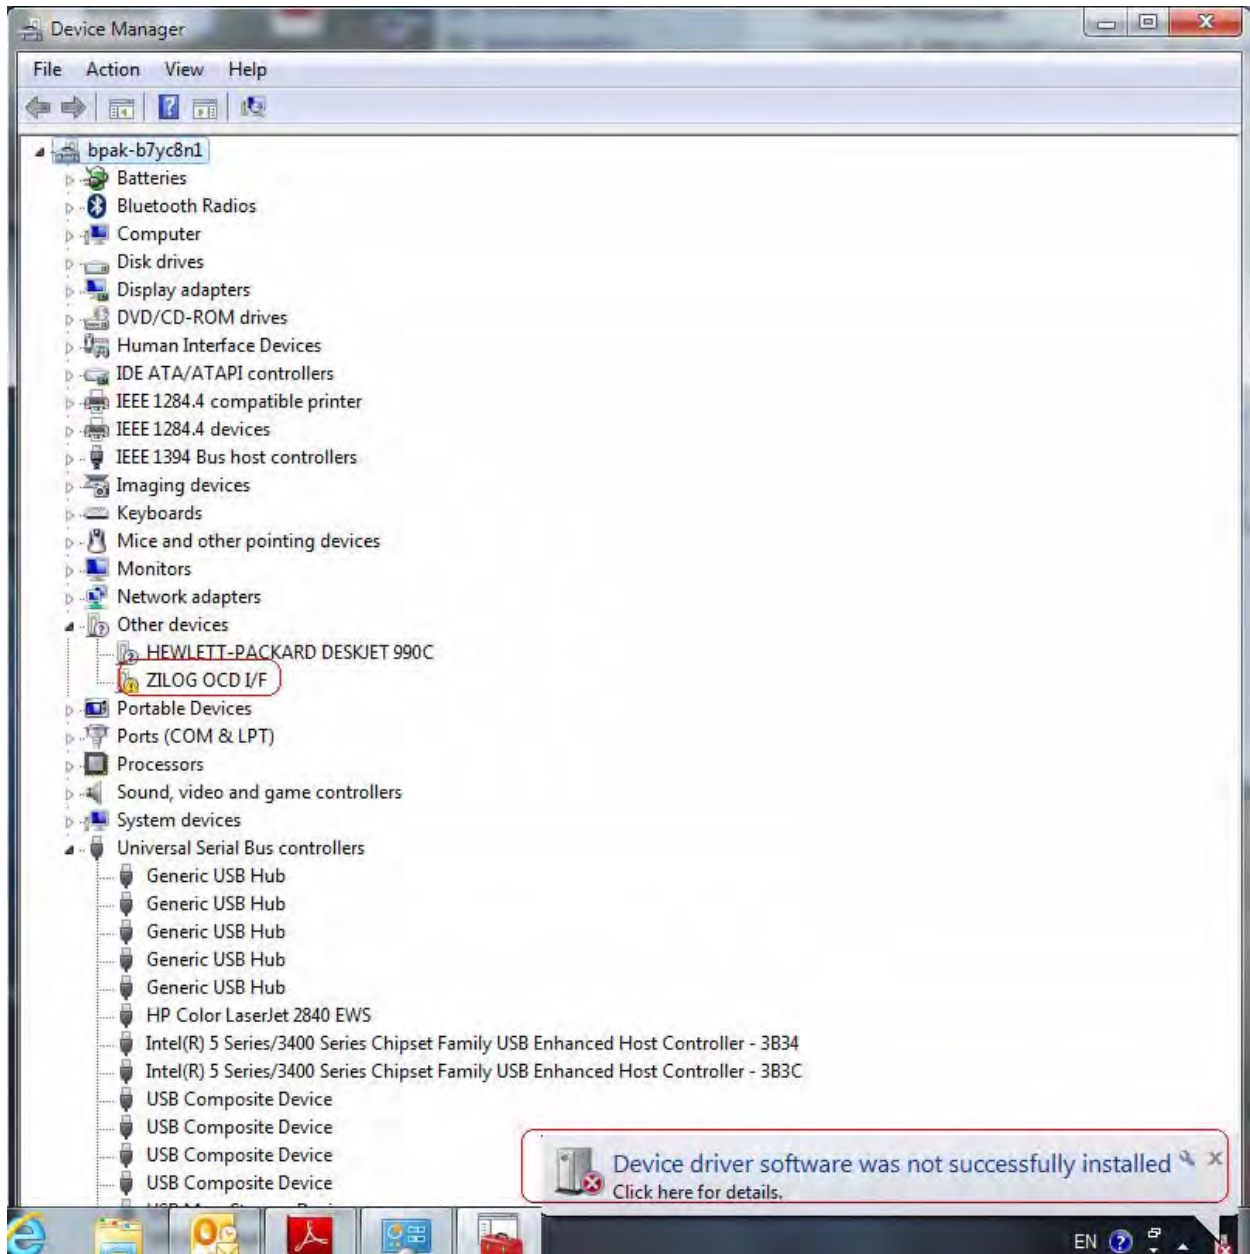
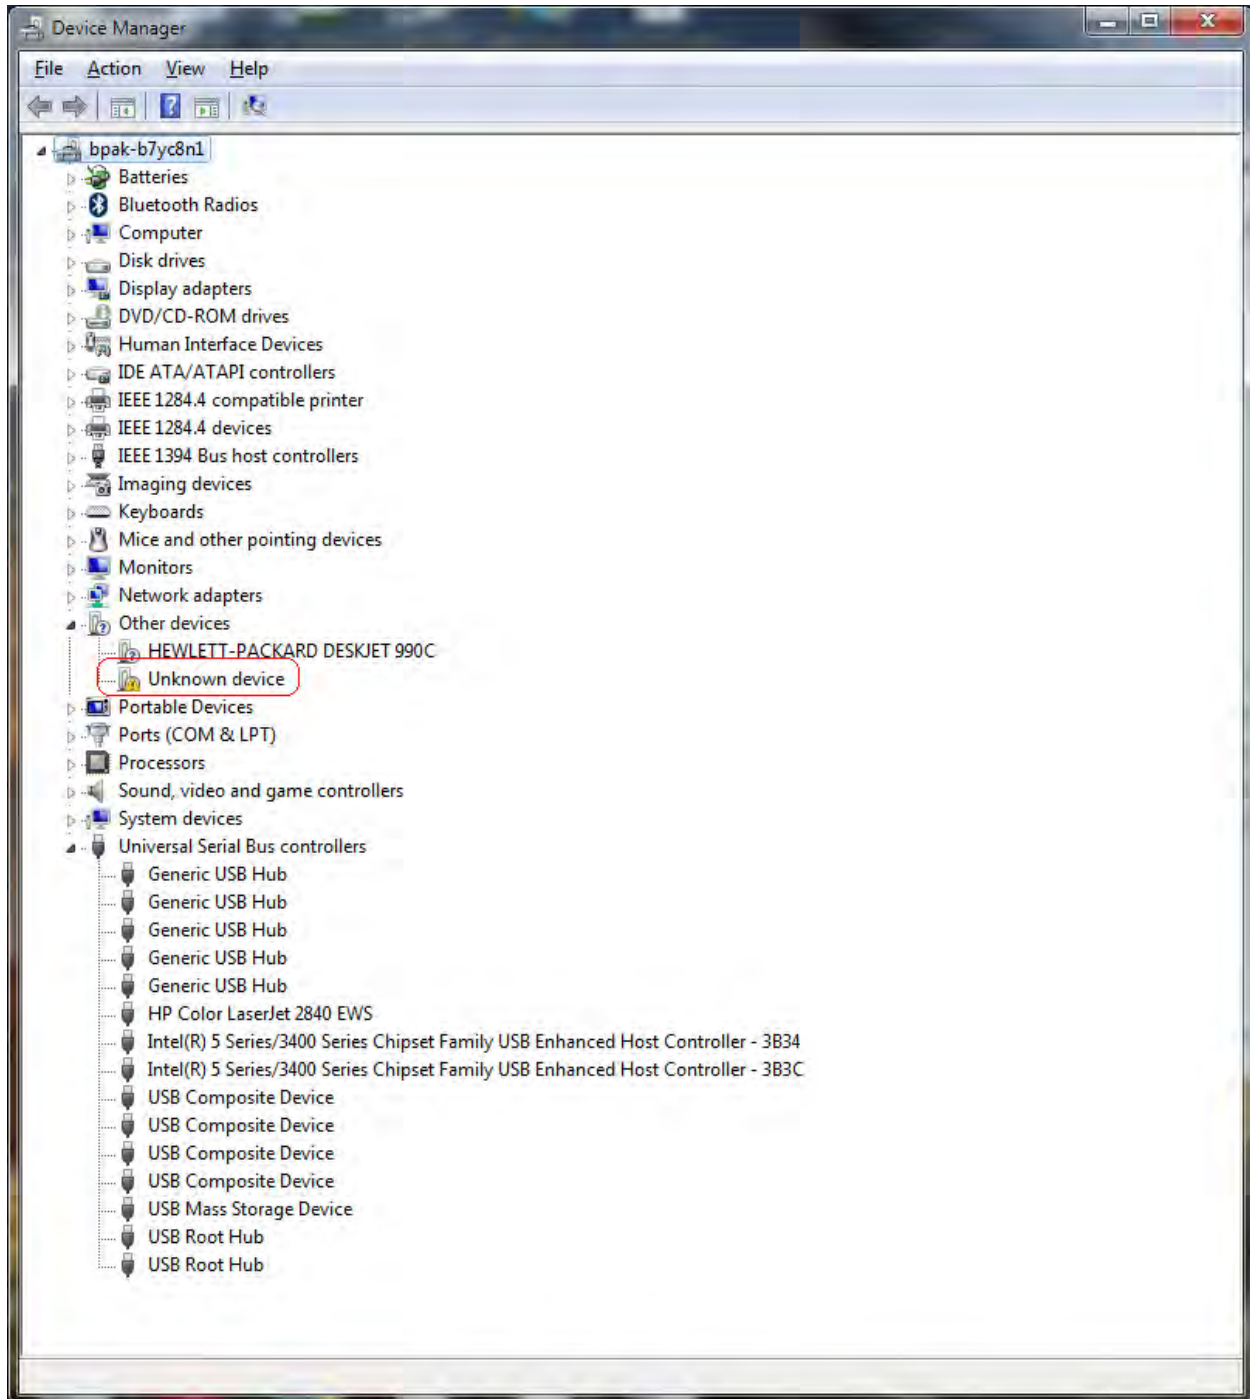

Figure 9. Unsuccessful Installation, Scenario 1
Figure 10. Unsuccessful Installation, Scenario 2
**IMPORTANT NOTE:** If you should encounter the scenarios presented in Figures 9 or 10, right-click your mouse on **ZILOG OCD I/F** (highlighted in Figure 9) or **Unknown device** (highlighted in Figure 10) and select **Update Driver Software...**